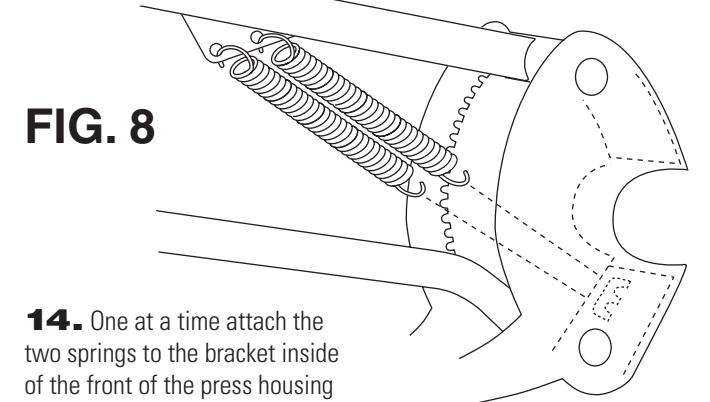

FIG. 8
14. One at a time attach the two springs to the bracket inside of the front of the press housing (N). With the press housing lifted to its highest point, attach the other end of each spring to the bracket on the underside of the upper press pivot lever. Use gloves and care in doing this to prevent pinching. **FIG. 8** Note: the installation of the springs is optional. Each spring reduces the weight of the press arm by 20 pounds. If both springs are installed, the press arm will add only 10lbs. to the stack weight. (affix the "PRESS ARM ADDS 10lbs." label to the press housing (N). If only one spring is installed, affix the "PRESS ARM ADDS 30lbs." label. If no springs are installed, affix the "PRESS ARM ADDS 50lbs." label. Suggestion: If uncertain how many springs to install, install them both. They can be removed later if you find yourself wanting additional weight. **FIG. 8**